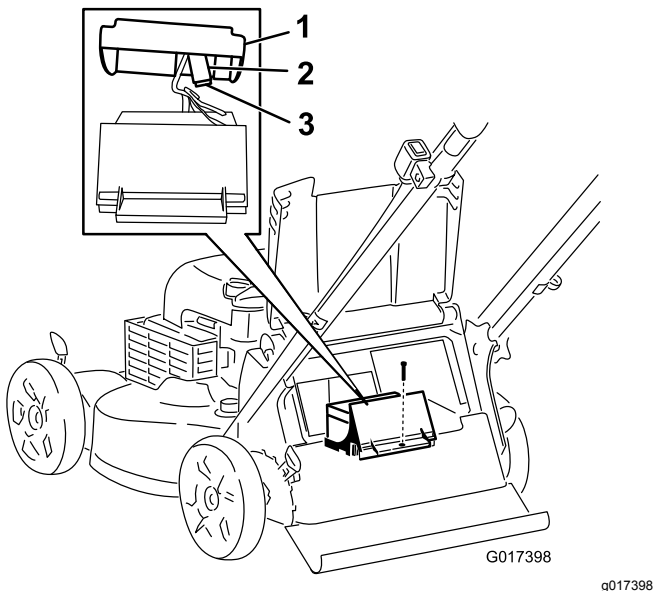

Figure 37
3. Remove the screw that secures the battery compartment, pull out the battery, and locate the fuse (Figure 37).
4. Replace the fuse in the fuse holder (Figure 37).